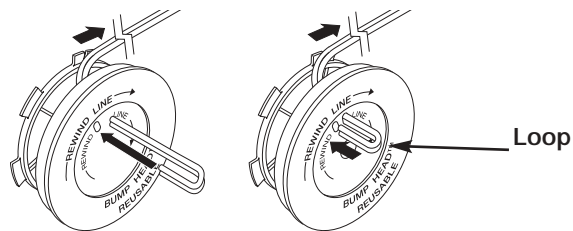

FIGURE 18
- Take approximately 3.65 m (12 feet) of new trimming line. Insert one end of the line through one of the two holes in the inner reel, Figure 18. Pull the line through the inner reel until only about 4 inches is left out.
- Insert the end of the line into the open hole in the inner reel and pull the line tight to make the loop as small as possible, Figure 18.